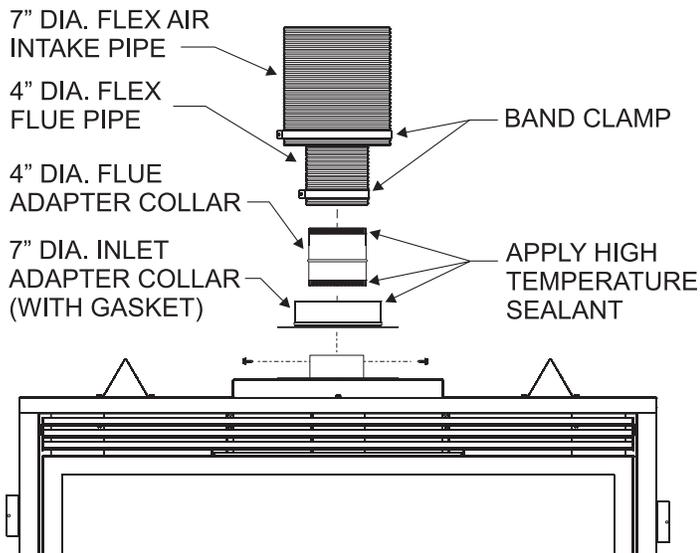

Figure 47
- To attach the vent connections at the fireplace, be sure the 7" diameter adapter collar has been installed per step 3. Apply a bead of silicone sealant to the 4" diameter flex connector, then slide the flex pipe adapter collar into the fireplace flue collar and secure by installing a minimum of two screws through the flue collar and into the adapter. **See Figure 47.**
- Apply sealant to the 7" diameter adapter collar, slide outer flex vent over the collar, then secure with a 7" diameter band clamp. **See Figure 47.**